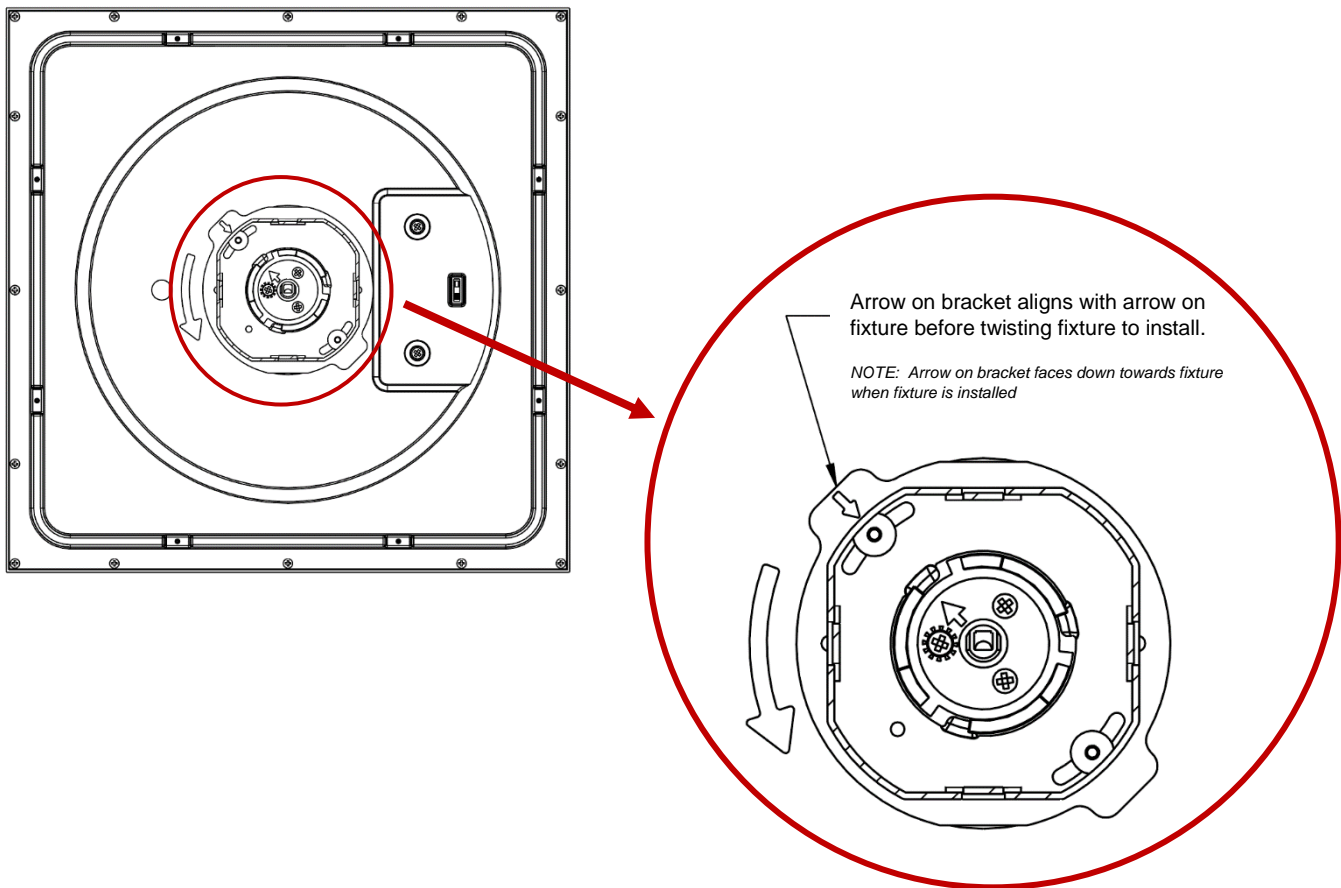

Figure 7
10. **Align the straight arrow on the Mounting Puck** on Fixture Assembly **with the straight arrow on the Mounting Bracket**, as shown in *Figure 7*.